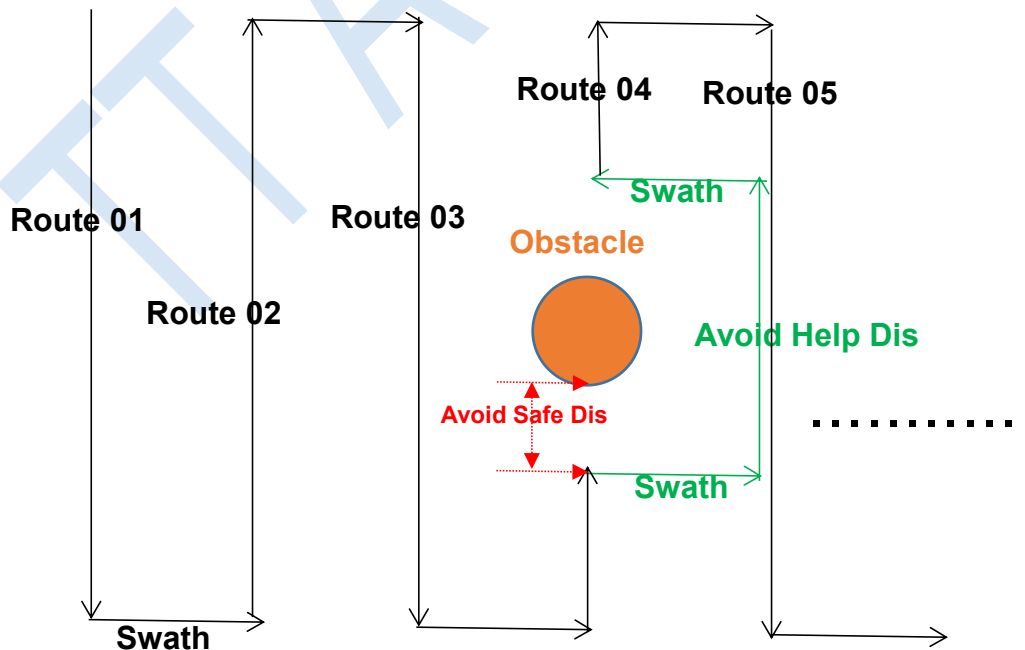

Figure 6.33 Auto Avoidance Description
**"Avoid Help Dis"**: When triggering the **Cross** avoidance action, the actual avoidance flying distance = swath\*2 + Avoid Help Dis, referring to the **Figure 6.33**. Only valid in AB mission and autonomous mission.